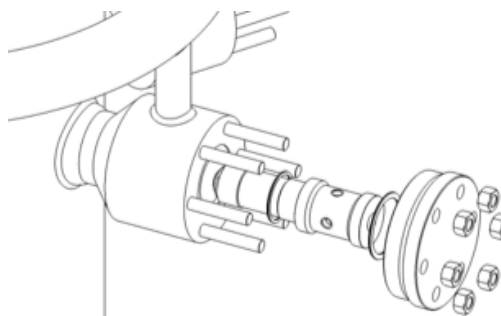

Figure 9 - Nozzle housing
1. Remove the nozzle flange nuts from the nozzle housing (Figure 9).
10. Torque the nuts to the values indicated on the valve assembly drawing and to the required torquing sequence shown in Figure 9 in at least 6 equal torque steps (10%, 20%, 40%, 60%, 80%, and 100% of the prescribed value) unless otherwise specified